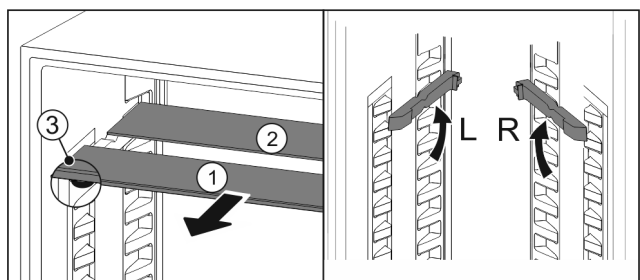

Fig. 60
- ▶ Pull the glass panels out Fig. 60 (1) from the front, one at a time.
- ▷ The glass panel Fig. 60 (1) and trim strip are at the front.
- ▷ The stops Fig. 60 (3) point down.